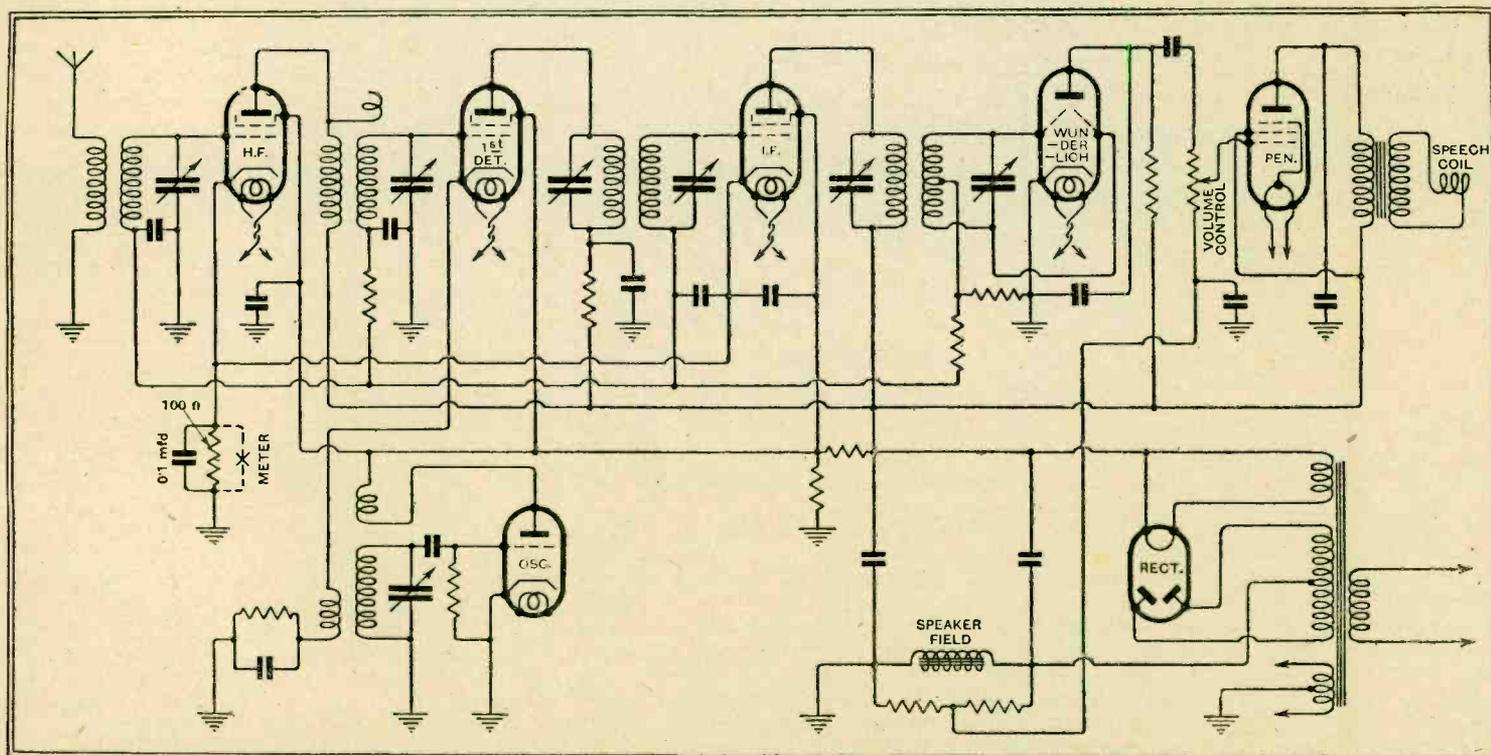

Fig. 5.—Circuit diagram of a complete six-valve superheterodyne embodying the Wunderlich valve and an AGC system.
**I**N Part I of this article the principles underlying the various systems of automatic volume control were explained, and reference was made to the Wunderlich valve. Fig. 5 shows a 6-valve superheterodyne circuit employing this valve and the AGC system. Although the valve is not available in England, unless imported from America, there are certain advantages in including the full circuit in this article. In the first place it enables the reader to obtain a more comprehensive idea of the application of the principles which have just been discussed. Secondly, an examination of the circuit will reveal the circuit simplification which is possible with the new valve. Thirdly, there is obvious scope for experimenters to secure similar results by using two carefully matched triodes connected in push-pull to replace the Wunderlich valve. In attempting to do this, it should be remembered that any unbalance in the input grid circuits will cause high-frequency currents to flow in the anode circuits, which, in turn, will reduce the available output power of the combination, since, from the point of view of L.F. amplifier action, only a certain A.C. voltage can be handled on the grids. The more perfect the balance can be made at the input circuit the higher will be the detector efficiency and the better will be the AGC bias voltage.
A study of Fig. 5 will reveal the following deviations from common superhetero-
In many receivers the cathodes of the H.F. and I.F. valves are returned to earth through the manual volume-control variable resistance and then a small fixed resistance which determines the initial bias for these valves. In the circuit shown in Fig. 5 the manual volume control is placed after the second detector, at the input to the power stage. Since full sensi-
It will be observed in Fig. 5 that there is a condenser (0.00025 mfd.) connected between the plate and earth of the Wunderlich valve. The purpose of this is to by-pass any slight amount of H.F. current which may be present in the plate circuit due to small degrees of unbalance in the input circuit.